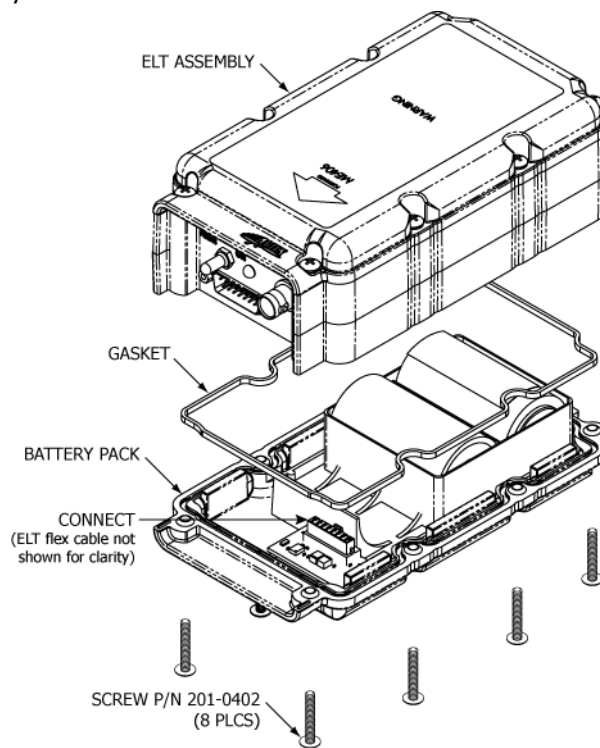

Figure 27 Battery Pack Installation
- 2) See Figure 27 Battery Pack Installation